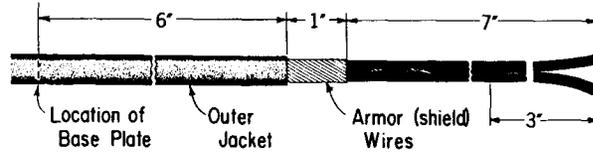

Fig. 2 — Preparation of D Underground Wire for B Cable Closure
2.03 To terminate D Underground Wire, pull slack from the wire and mark the outer jacket about 6-inches above the base plate. Prepare the end as shown in Fig. 2.